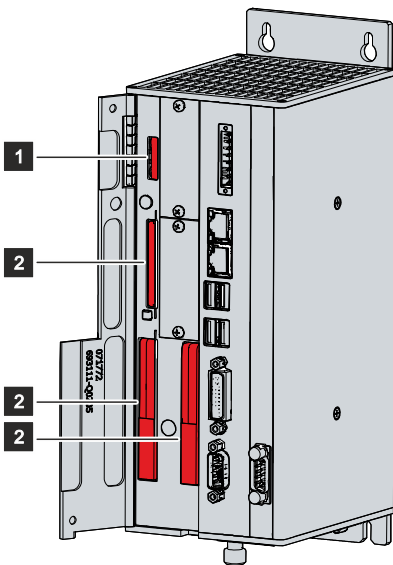

Fig. 24: Battery and storage media
You now have access to the battery (1) and storage media (2) (see fig. 24).